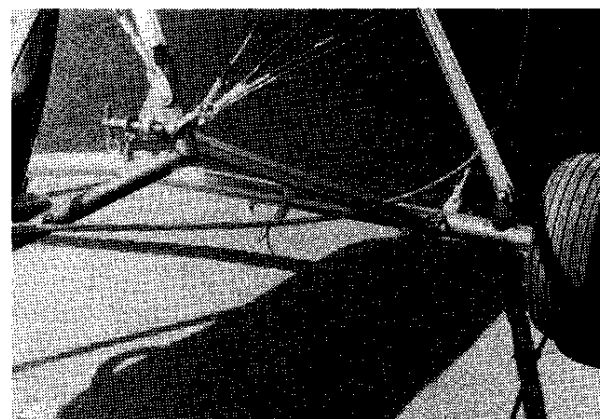

Figure 2.44
- 50.** Route teleflex cable outside left axle strut, above axle and inside left landing gear down tube, below left landing gear side wire and along the left lower tail wire. **Figure 2.44**